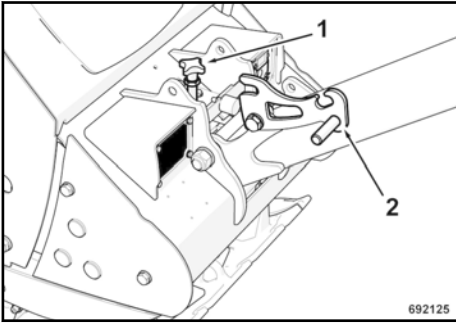

Fig. 15
Pull the locking pawl lever (2)  Fig. 15 and lower the steering rod, so that it can swing freely.